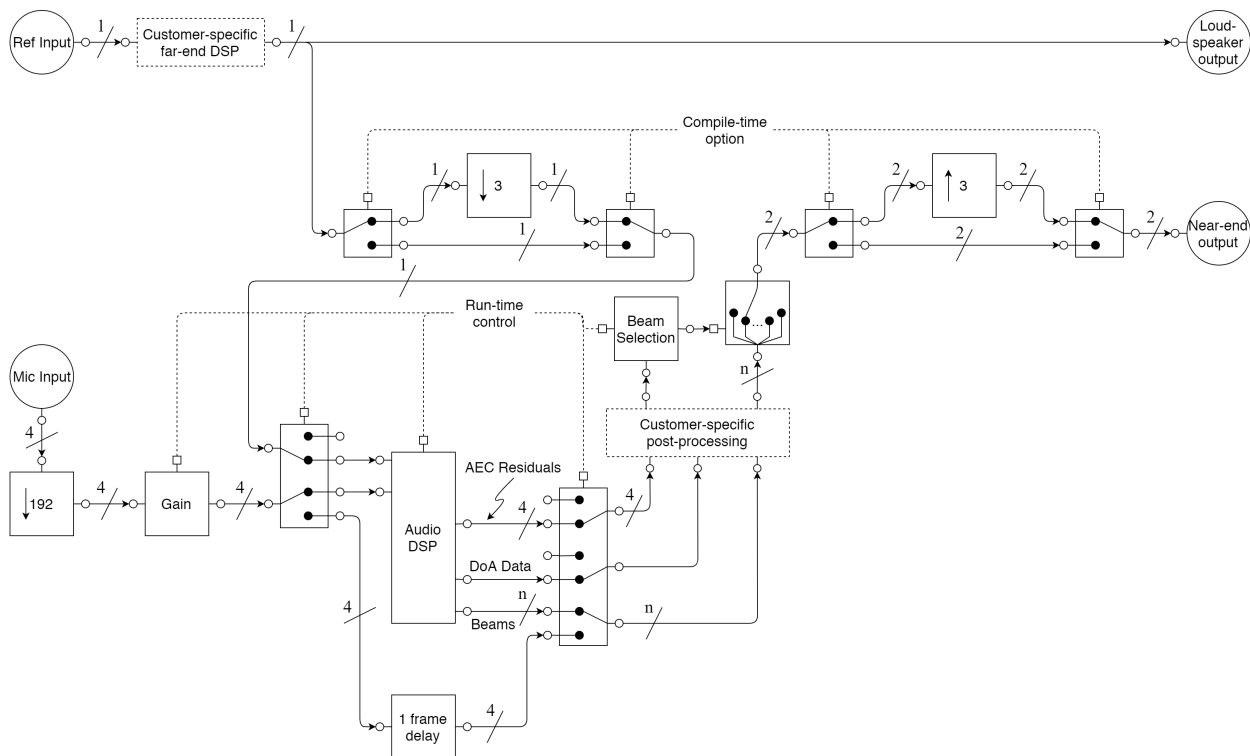

Fig. 4.1: XVF3800 audio block diagram
- Create a block diagram of the whole system, showing audio path from input through to output and including the XVF3800. This can be used to understand how to optimise and control the performance of the overall product. Ensure that the path from the reference input through to the loudspeaker and from the microphones to the XVF3800, including any gain, EQ, compression, filtering, and limiting applied, are illustrated. Ensure also that the points where control is available over these parameters (and, more importantly, where it is not) is fully understood. Fig. 4.1 provides a block diagram of the audio functions in the XVF3800 to aid in the preparation of this system diagram.